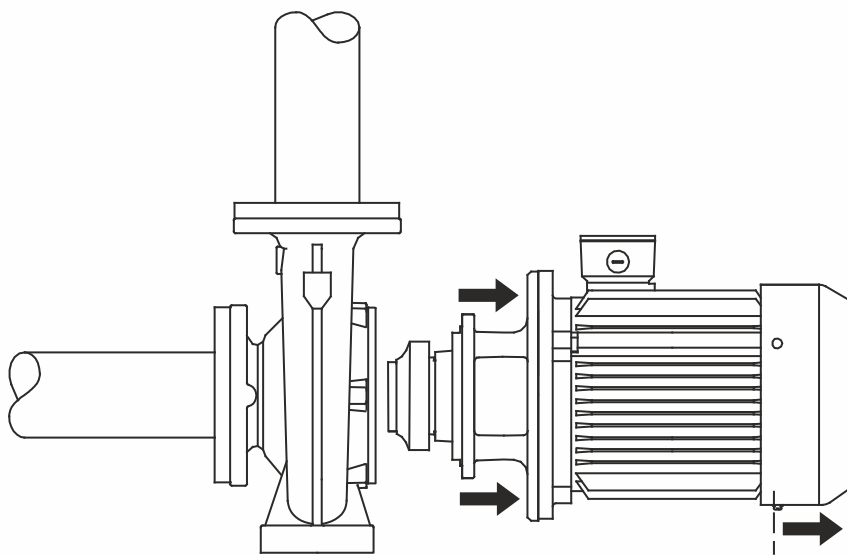

Fig. 1 Back pull-out design
- The pumps are of the back pull-out design enabling removal and dismantling of the motor and impeller without disturbing the pump housing or pipework. Consequently, even the largest pumps can be serviced by a single person with a crane, see Fig. 1.